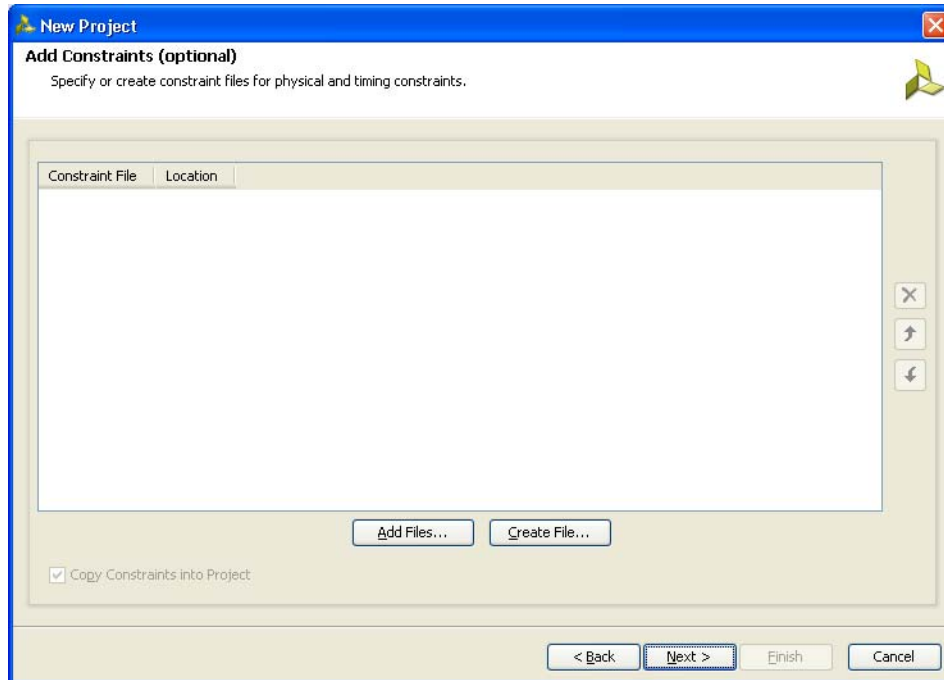

Figure 3-7: Add Constraints (Optional)
- Click **Next** to open the **Add Constraints (Optional)** page (Figure 3-7). If the constraints file exists in the repository, it can be added to the project. Proceed to the next page if the constraints file does not exist.